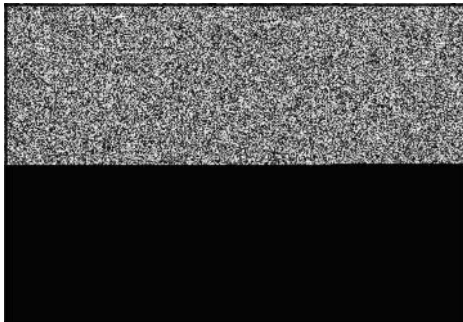

Figure 9
2. Install screws in sequence shown in Figures 9, 10, 11, and 12.
- Figure 9 - Horizontal shaft models 120000, 150000, 200000, 210000